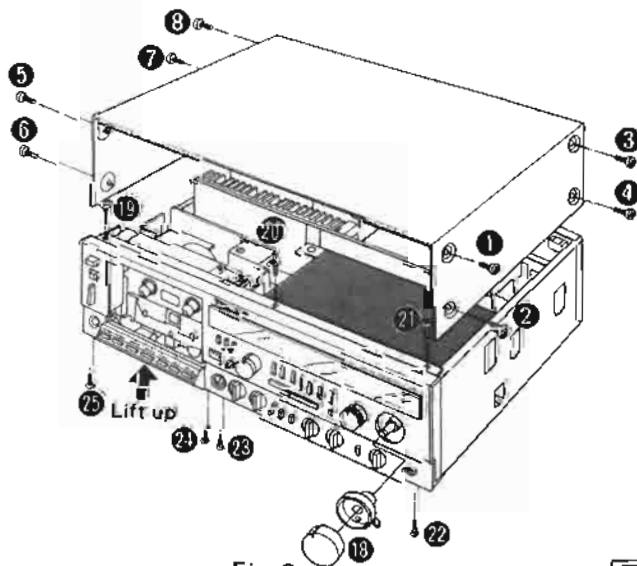

Fig. 2
1. Remove the 8 setscrews (Fig. 2 : ① ~ ⑧) of the cabinet.
2. Pull out the knob ⑱ of Fig. 2.
3. Remove the 7 setscrews (Fig. 2 : ⑲ ~ ⑳) of the front panel.